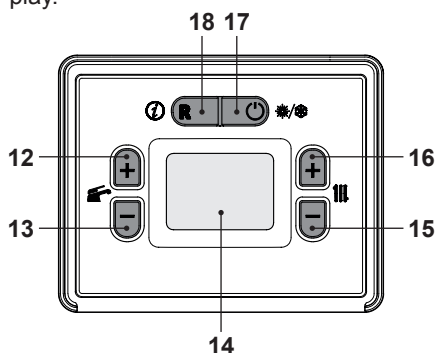

Figure 6.5
- Press the 17 button (Figure 6.5) until the message **OFF** appears on the LCD display (Figure 6.4).